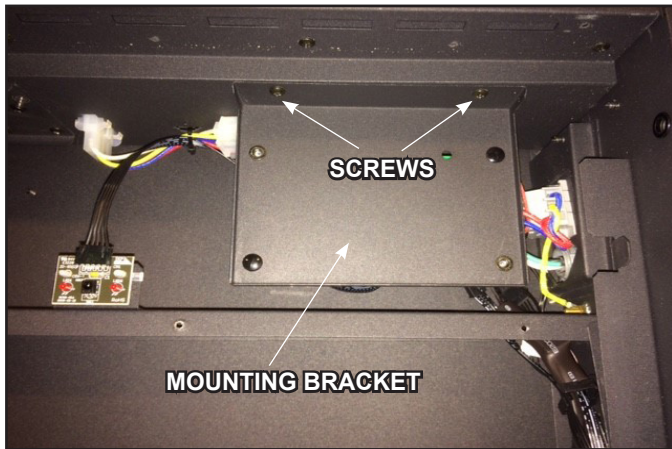

Figure 23. Remove Mounting Bracket Screws
23. Remove the two (2) Phillips screws. After removing screws the mounting bracket can be lowered down to access the wires. See Figure 23.